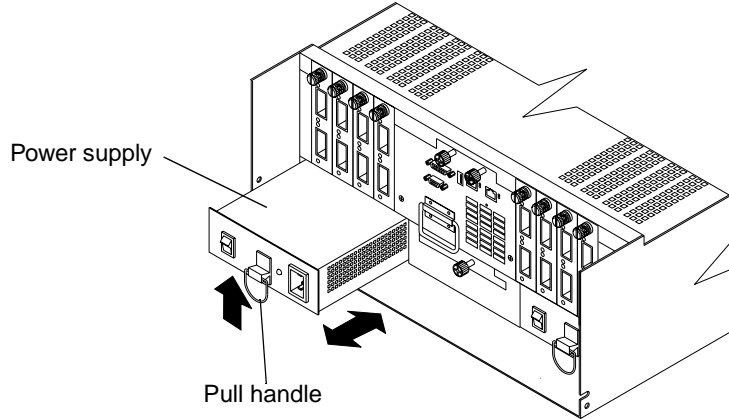

Figure 27. Removing and installing a power supply CRU
- 3 Using Figure 27 on page 48 as a guide, remove the failed power supply.
- 4 Unpack and install the new power supply, as shown in Figure 27. Using the pull handle, push the power supply into the slot until it locks into place.